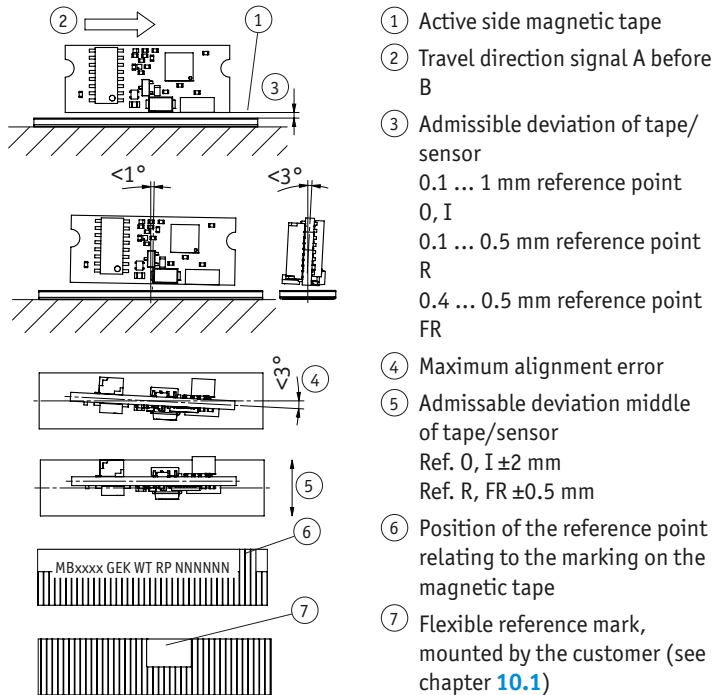

Fig. 6: Definition of the counting direction with magnetic tape and assemblage sensor / magnetic tape, gap measure, tolerances
► Take care that the magnetic sensor is aligned correctly in order to ensure optimum sensing (see Fig. 6).